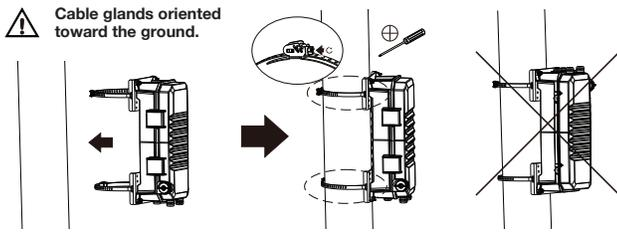

Fig. 25
- 1.5. Attach pole bands to pole and tighten with clasp (Fig. 25).